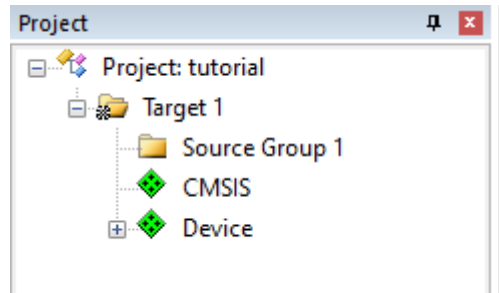
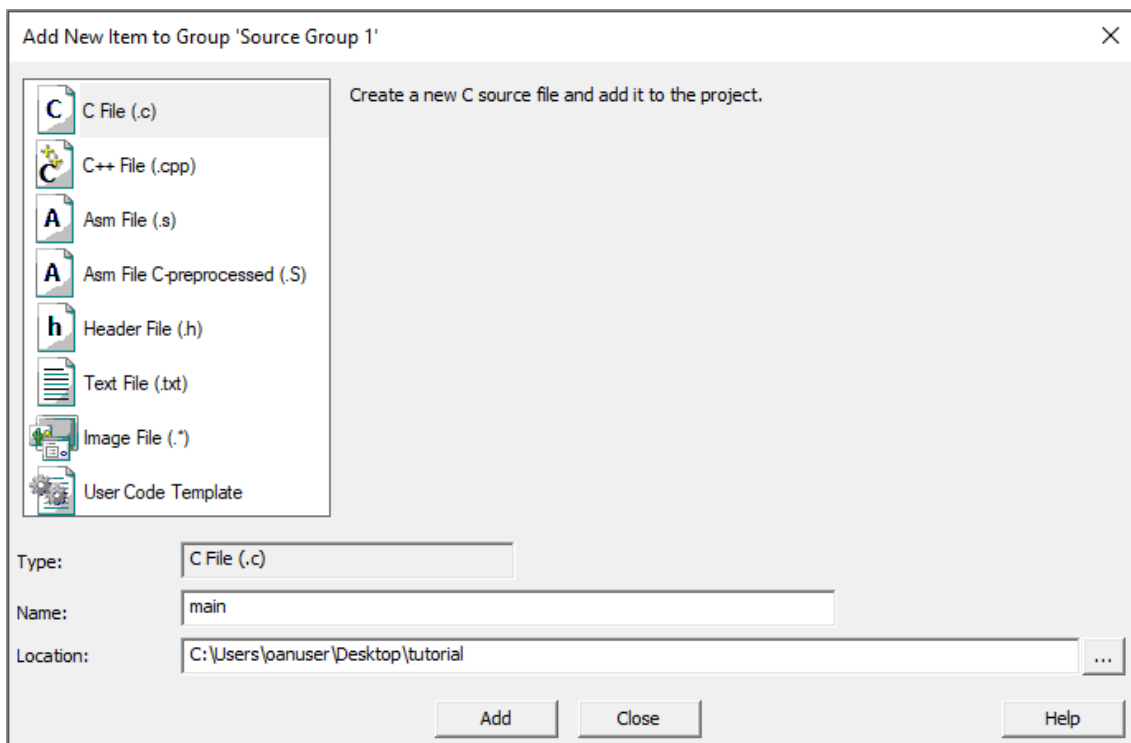
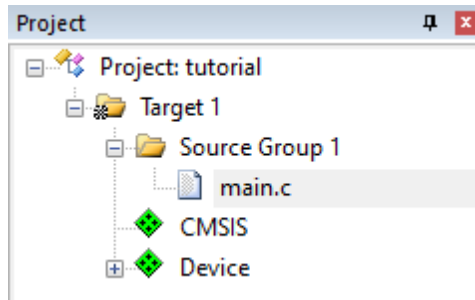

Figure 23
Figure 24
Figure 25
4. Then, a project is created with Figure 23 files. We are going to create a main.c file: pulse Source Group 1 with right button of the mouse and select Add new item to Group "Source Group 1". Then in the pop-up window select C File, write the name of the file and pulse Add as ism shown in Figure 24. For ending we can see our new file in Figure 25, you can write the code in main.c and load it in LPC1768.